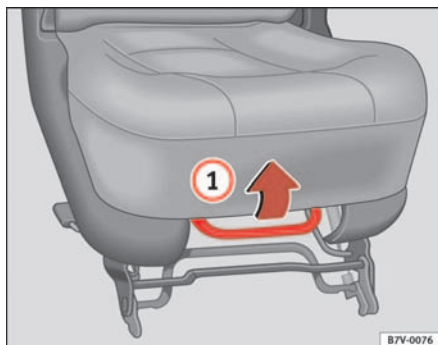

Fig. 90 Adjustment of the seat forwards and backwards
- Pull the unlock lever ⇒ fig. 90 upwards, in the direction of the arrow, and hold in this position.